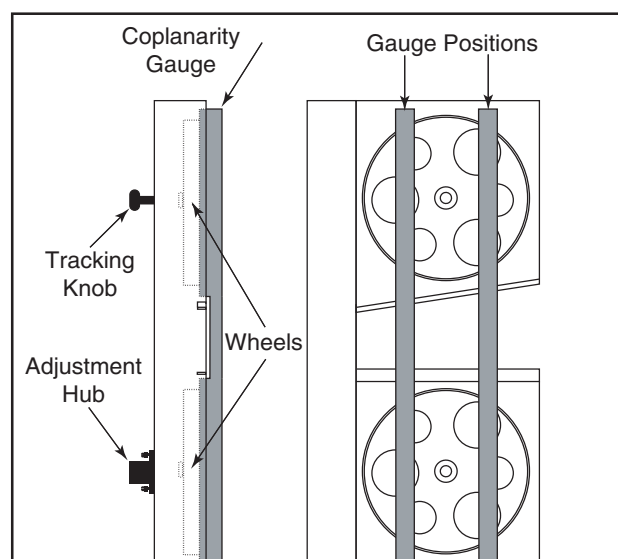

Figure 85. Checking for coplanarity.
4. Place your gauge up against both wheels in the positions shown in **Figure 85**.